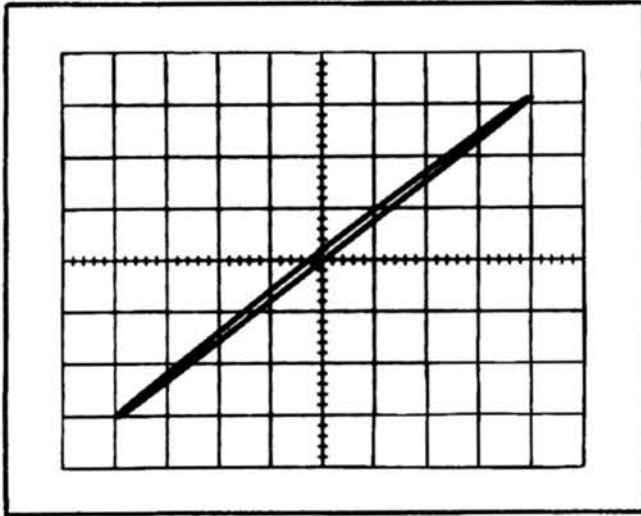
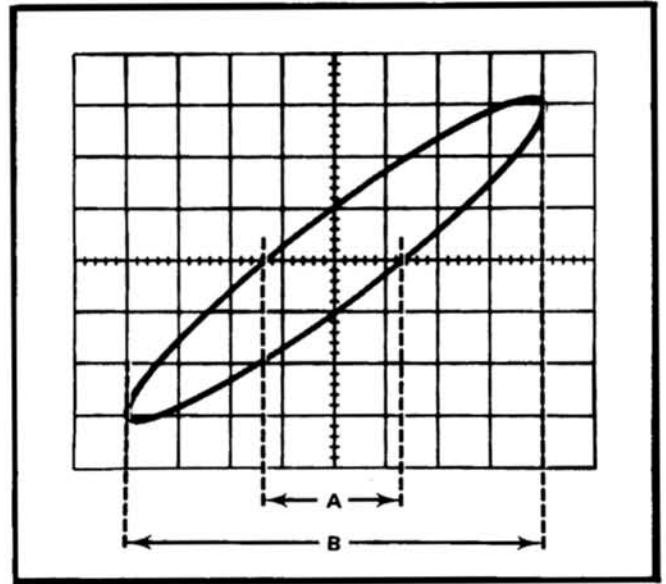

Fig. 2-16. X-Y display showing phase shift.
Fig. 2-17. Phase-difference measurement from an X-Y display.
3. Connect the same signal to both EXT VOLTS IN connectors. Use the Amplifier VARIABLE controls to obtain a display less than 8 divisions vertically and less than 10 divisions horizontally. Measure and record the inherent phase shift for the oscilloscope system being used. See Fig. 2-16.
5. Center the display in relation to the vertical graticule line. Measure the distances A and B as shown in Fig. 2-17. Distance A is the horizontal measurement between the two points where the trace crosses the center horizontal reference line. Distance B is the horizontal width of the display.
**Example.** The phase angle shown in Fig. 2-16 is approximately 2° and in Fig. 2-17 the phase angle is 18°.